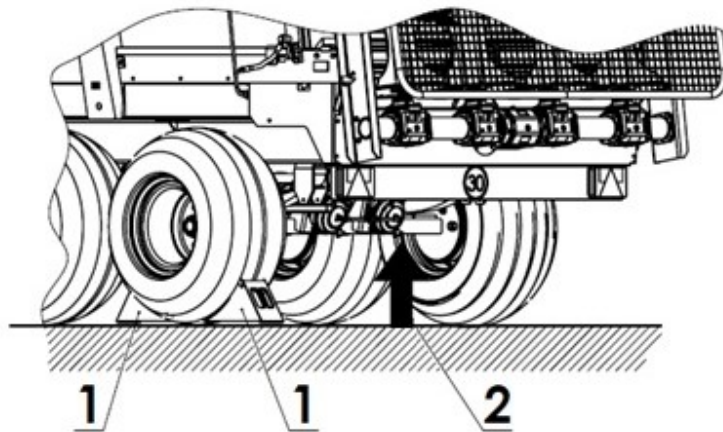

Figure 39 Jacking points: 1 - chocks, 2 - jack
If it is necessary to disassemble the wheel, observe the jacking points (2) under the axle. See Figure 39 for the jacking points. Place the protective chocks (1) under one wheel only.